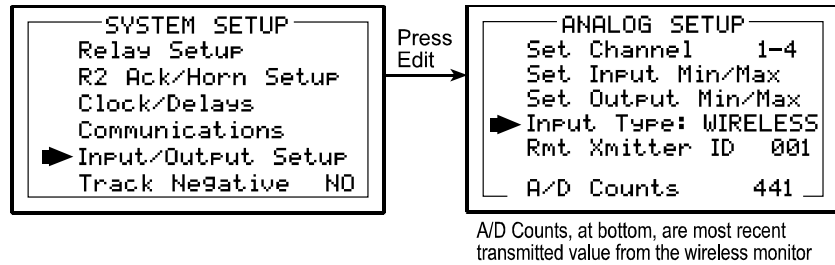

Figure 5.3
Use the **WIRELESS** setting shown at right of Figure 5.3 ONLY FOR COMMUNICATION TO ST-48/RF WIRELESS TRANSCEIVERS.
**Wireless MODBUS** allows one or many ST-90s to function as wireless modbus *slaves* by selecting **wireless MODBUS** in the **COMM SETUP** menu (Figure 5.3). These wireless networks require a modbus *master* such as a DCS, HMI, or other RC Systems Controller; also equipped with a radio modem. As in all R. C. Systems wireless networks, one transceiver must be designated as Server and all others as Clients. No special configuration is required by the *master* or *slave* since this is a standard modbus network. However, radios must have the same **Hop Channel** and **System ID** settings to communicate.